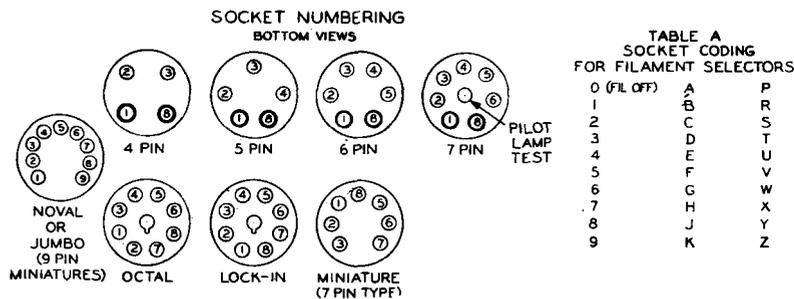

Fig. 10 - Tube Basing Selector Code Arrangements
6.01 For commercial electron tubes it may sometimes be desirable either to verify the SELECTORS setting code or in certain cases to base a new type for which no roll chart setting is available, and the new type is an equivalent electronically to a listed tube. The test sockets in this tester are number coded for basing purposes as shown in Fig. 10. From the socket numbering arrangement and Table A of this figure, the correct filament or heater pin basing may be determined. The numbers appearing on each type socket, i.e., 4-pin, 5-pin, etc., represent the selector code setting number to be used in basing the various elements of any particular tube as related to their function, such as filament, grid, plate, etc. The latter functions all appear as separate SELECTOR dials, and are so designated on the main panel of the tester.
6.02 In particular, attention is directed to the code numbers 1 and 8 appearing on every socket in Fig. 10. These represent the most common filament (or heater) terminal assignments for most tube types. Code pin 1 corresponds to the actual pin 1 assignment in all sockets except the octal and the 7-pin miniature. This arrangement has been used to minimize the over-all variation required in the two FILAMENT SELECTOR settings, and is evident from
the frequency of appearance of the code JR on the roll chart, as derived from Table A of Fig. 10. This usually necessitates the recording of other pin assignments. The majority of variations in FILAMENT SELECTOR settings appear more often in 7 and 9-pin miniatures (Noval and Jumbo), and occasionally in the octal socket, as for example, where the actual heater pins 7 and 8 of certain tube types result in JX filament selector code setting. Another example is found in 7-pin miniature tubes where pins 1 and 7 of this tube are sometimes assigned as filament. These are selector codes numbered 3 and 7 and result in a filament setting code of DX from Table A of Fig. 10. In any case the opposite code could also be used for filament pin basing, for example, HT instead of DX in the example just given.
6.03 The remaining basing for the GRID, PLATE, SCREEN, CATHODE and SUPPRESSOR switches is accomplished by viewing the desired coded number socket to be used in Fig. 10 and associating the grid, heater, screen, cathode positions or whatever elements are found on the new tube to be based, and using the code numbers found on the required Fig. 10 socket, as selector settings for each function (grid, plate, etc). For example, in the 6AK5 or Western Electric 403B, using tube base data for element pins as found in any handbook, and referring to the miniature 7-pin socket in Fig. 10, this type is based for SELECTOR settings as follows:
When an external cap grid or plate is used, the grid or plate selector, respectively, is set at 0. In the case of diode or rectifier plate element pins, the diode or rectifier plate elements are always associated with the PLATE selector switch. (In this case a separate setting is required to test each diode or rectifier plate section.) The two 9-pin types (Noval and Jumbo) and the lock-in pin codes are straightforward (see Fig. 10) and require no code interpretation except for FILAMENT pin assignments.